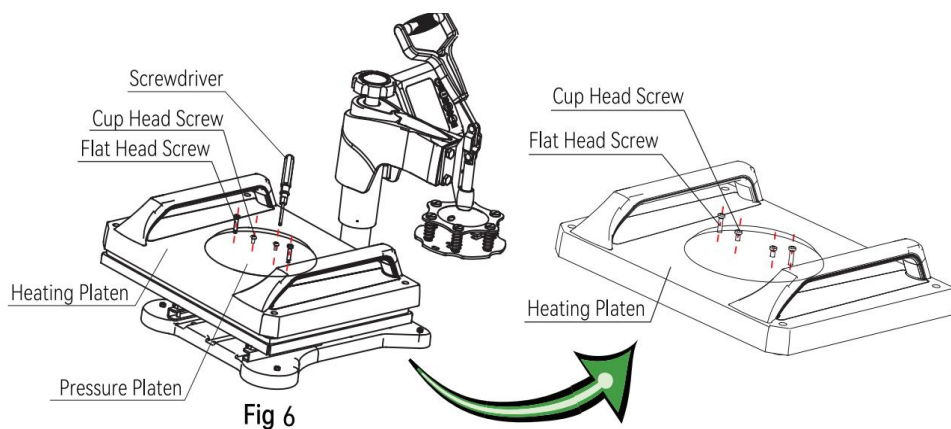

Fig 6
6. Place the pressure platen flat on the heating platen, align it with the hole. Take 4 fat head screws, and tighten them with a screwdriver. Take 2 cup head screws and lock them to the hole in the middle of the pressure platen. At this time, do not lock the cup head screws: reserve 5-7mm for the next installation step (as shown in figure6).